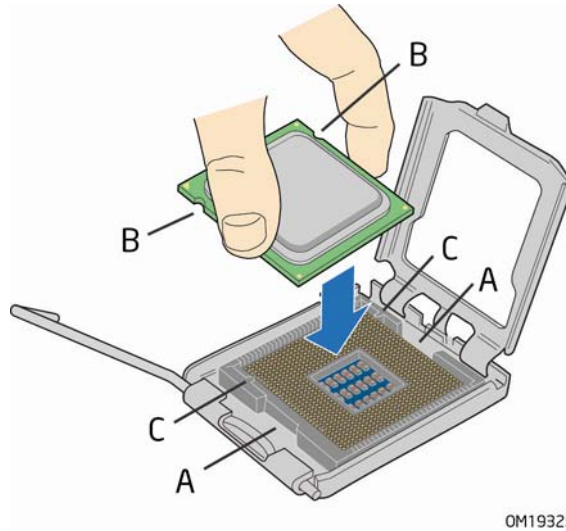

Figure 10. Install the Processor
6. Hold the processor with your thumb and index fingers oriented as shown in Figure 10. Make sure fingers align to the socket cutouts (Figure 10, A). Align notches (Figure 10, B) with the socket (Figure 10, C). Lower the processor straight down without tilting or sliding the processor in the socket.